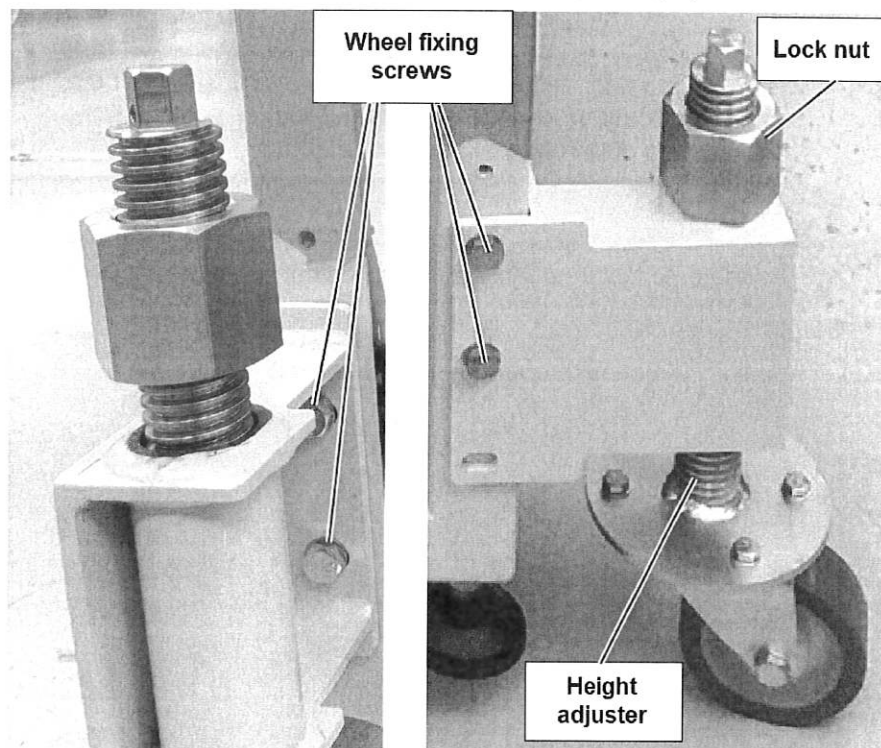

Fig 1 Tool wheels
- Remove the four screws that secure each of the two rear wheel assemblies to the frame. Remove the two wheel assemblies (see Fig 1).